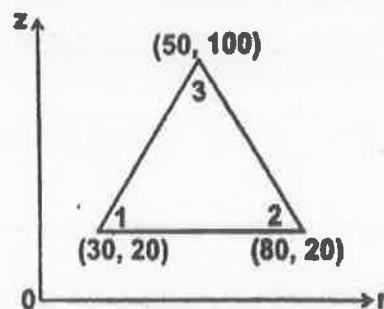

Fig.6
- (b) For an axisymmetric triangular element, as shown in Figure 6. Evaluate the stiffness matrix. Take modulus of elasticity $E = 210 \text{ GPa}$. Poisson's ratio $= 0.25$. The coordinates are given in millimetres.